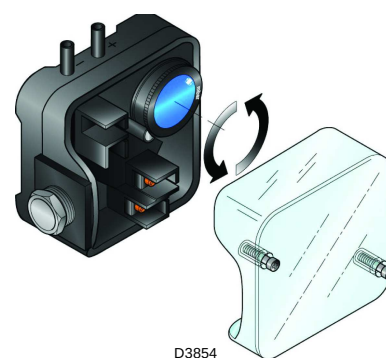

Fig. 29
- Adjust the air pressure switch (Fig. 29) to the start of the scale.
Adjust the air pressure switch after performing all other burner adjustments with the air pressure switch set to the start of the scale (Fig. 29).